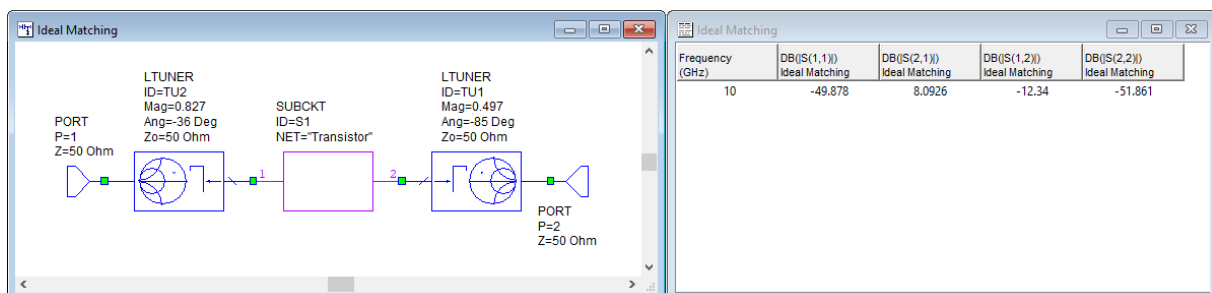

Fig. 3 Schematic of the ideally matched transistor using two LTUNER elements and resulting S-parameters.
- Verify GM1 and GM2 values using the AWR model based on 2 LTUNERs as shown in Fig. 3.